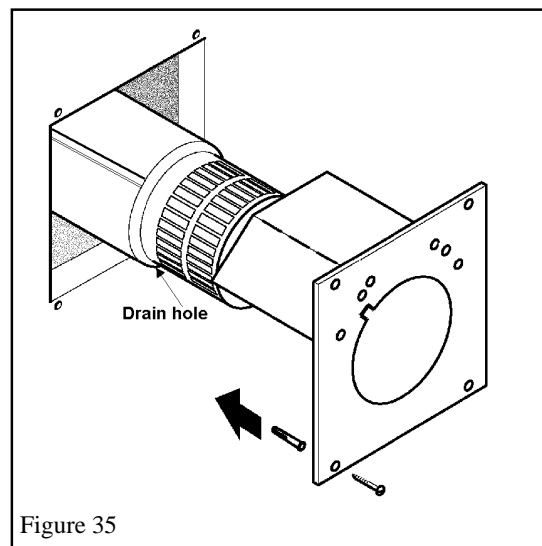

Figure 35
3. Fit the vent unit fully over the appliance inlet and outlet collars pushing on firmly. Make sure that the drain hole is at the bottom – the seam will be through the notch in the wall plates – See figure 35.
3. Slide the appliance/terminal into the wall. Make sure that the drain hole is at the bottom – the seam will be through the notch in the wall plates – See figure 35.
10. Screw the plate to the wall with 4 screws provided. See figure 35.